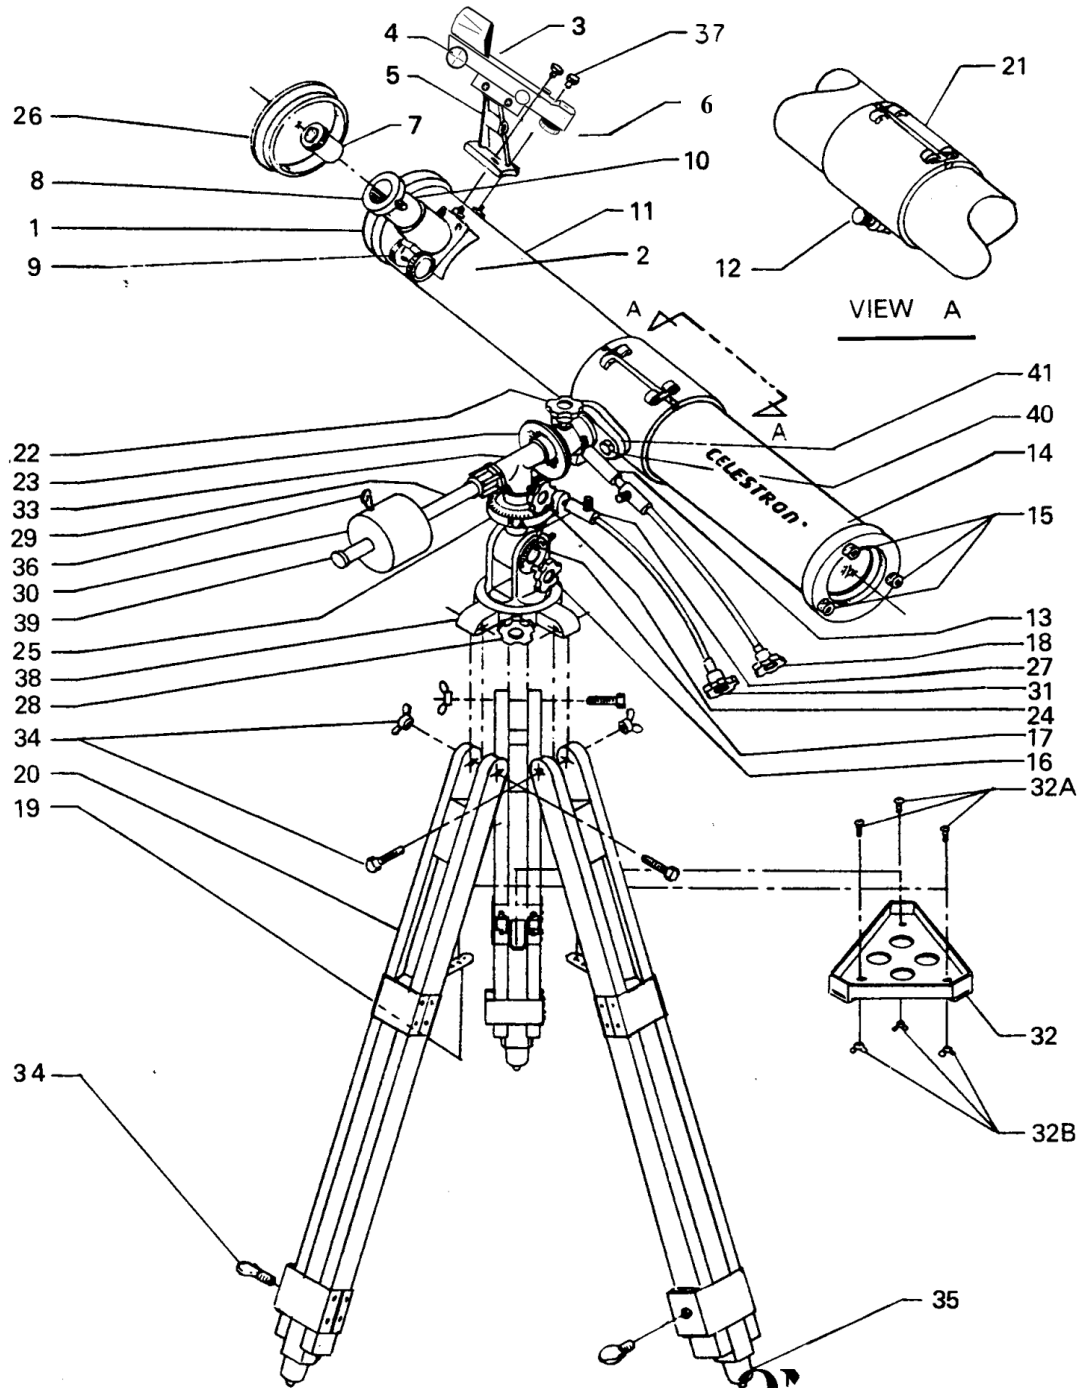

Figure 1
IDENTIFYING PARTS OF FIGURE 1
Please refer to Figure 1 (and the identifying parts list) as you assemble the telescope.
1. Slide the counterweight shaft (#29) through the counterweight (#30). Use the counterweight lock to lock the counterweight in place. By holding the counterweight in one hand, thread the counterweight shaft clockwise into the equatorial mount as shown in figure 1.
2. Mount the Star Pointer bracket by placing the bracket over the studs protruding from the tube and tightening it down with the supplied nuts. Orient the Star Pointer so that the glass window is facing towards the front of the tube (see Figure 1).